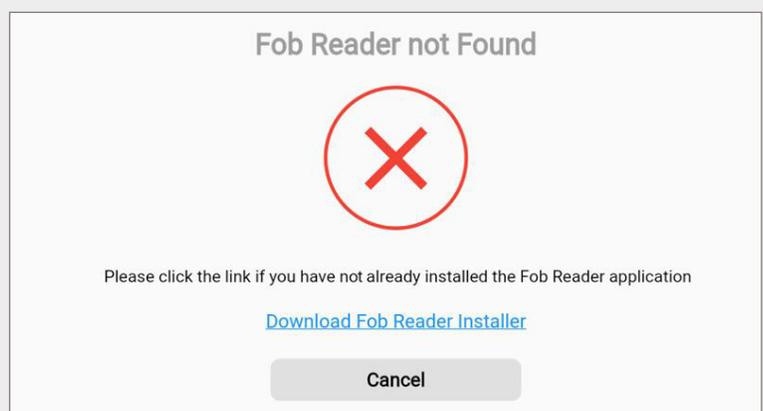

Fig. 39 – Download the fob reader software if prompted
8. If you have not yet installed a fob reader, you are prompted to download the software, as shown in Fig. 39. Click the **Download the Fob Reader Installer** link and run the installer.